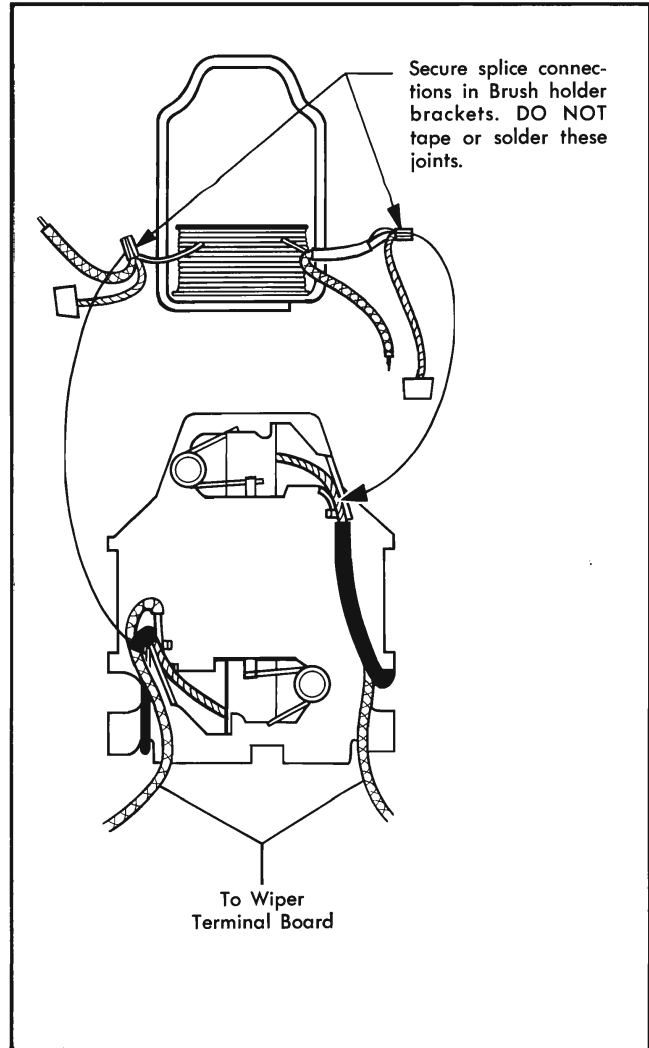

Fig. 11-83 Motor Splice Connections
2. Disassemble motor section and check all splice connections (Fig. 11-83).
d. Brush pigtail connections at splice joints (Fig. 11-83).